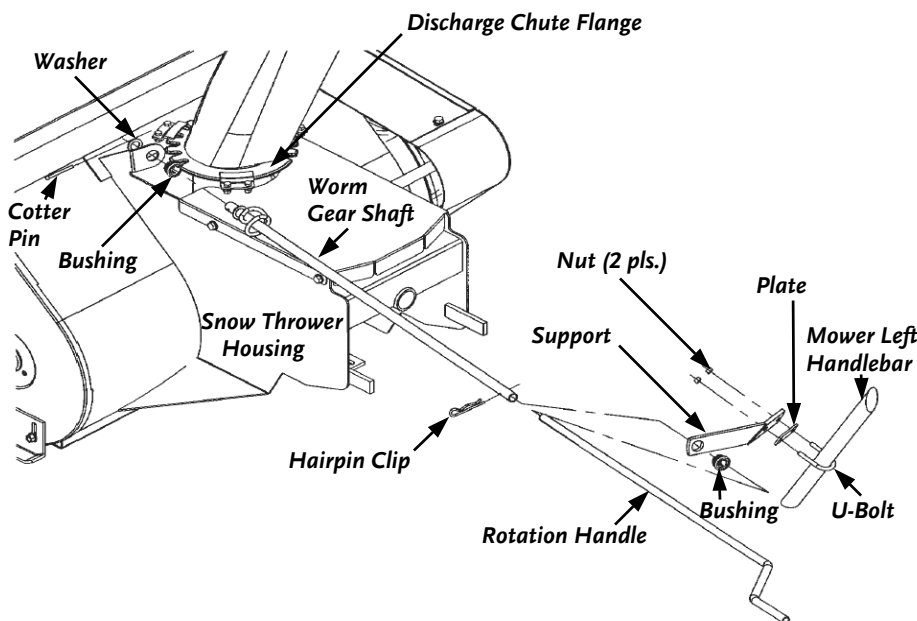

Figure 9
1. Using a 7/16" Wrench or Socket, install the Rotation Handle Support (**Figure 9**) on the left side Handle Bar of your DR FIELD and BRUSH MOWER approximately 28" from the ground using the U-Bolt, Plate and Nuts.
2. Insert the Plastic Bushing, with the flange facing the operator, into the Snow Thrower Housing by pushing the Bushing forward until it snaps into place (**Figure 9**).
3. Insert the Worm Gear end of the Rotation Shaft in the Plastic Bushing and engage the Worm Gear with the gear teeth on the Discharge Chute Flange (**Figure 9**).
4. Place the Flat Washer over the end of the Worm Shaft and insert the Cotter Pin (**Figure 9**). Spread the ends of the Cotter Pin with the pliers to hold the Pin in place.
5. Insert another Plastic Bushing, with the flange facing the operator, into the Rotation Handle Support by pushing the Bushing forward until it snaps into place (**Figure 9**).
6. Insert the Handle of the Rotation Shaft through the Bushing in the Rotation Handle Support and then into end of the Worm Gear Shaft (**Figure 9**).
7. Secure the two halves of the Rotation Shaft together by aligning the holes in the shaft ends and inserting a Hairpin Clip (**Figure 9**).
1. Remove the Hairpin Clip from the Rotation Handle and remove the Handle from the Handle Support (**Figure 9** on page 14). Reinstall the Hairpin Clip on the Rotation Handle for storage.
Adjust the Chute with the Rotation Handle (*Figure 9 and 10* on page 14).